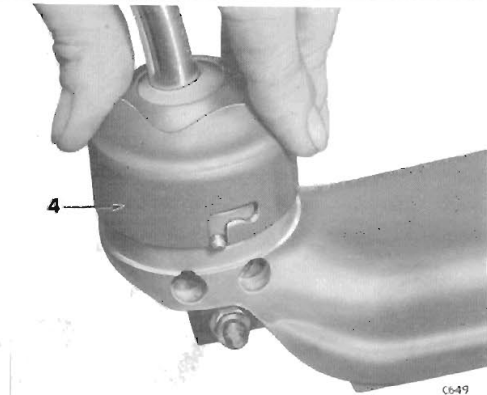

Fig. 10.
Dismantle the selector shaft and fork assemblies by driving out the Welch plugs (18) with a  $\frac{1}{8}$ " (3.17 mm.) dia. pin punch as shown in Fig. 10 ensuring that the selector shafts are clear.